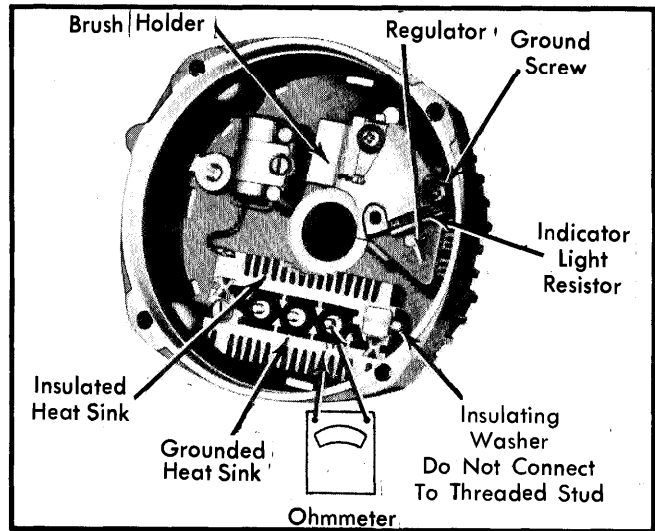

Fig. 16 Bench Testing Rectifier Bridge and Identification of End Frame Components
1) Connect an ohmmeter to grounded heat sink, with second lead held firmly against flat metal connector (not threaded stud). See Fig. 16. Then reverse leads to same heat sink and connection. If both readings are the same, replace rectifier bridge.